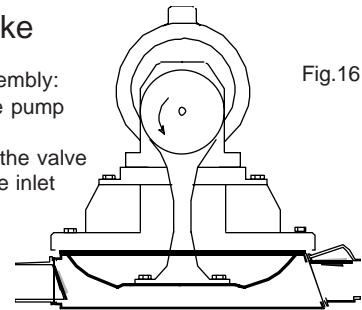

Fig.16
- When the diaphragm is driven down the air and liquid under the diaphragm is compressed closing the inlet check valve and forcing the air and liquid out the discharge. Fig.16